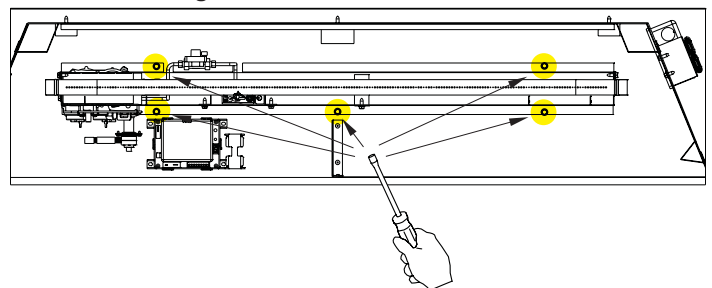

Figure 11
2. Remove the five 5/16" Hex screws that hold down the complete burner and valve assembly. There are three screws on the front bottom flange, and two on the back bottom flange, near the ends. **See Figure 11.**
7. Reinstall the burner and valve assembly and reattach the screws removed in step 2. **See Figure 11.**